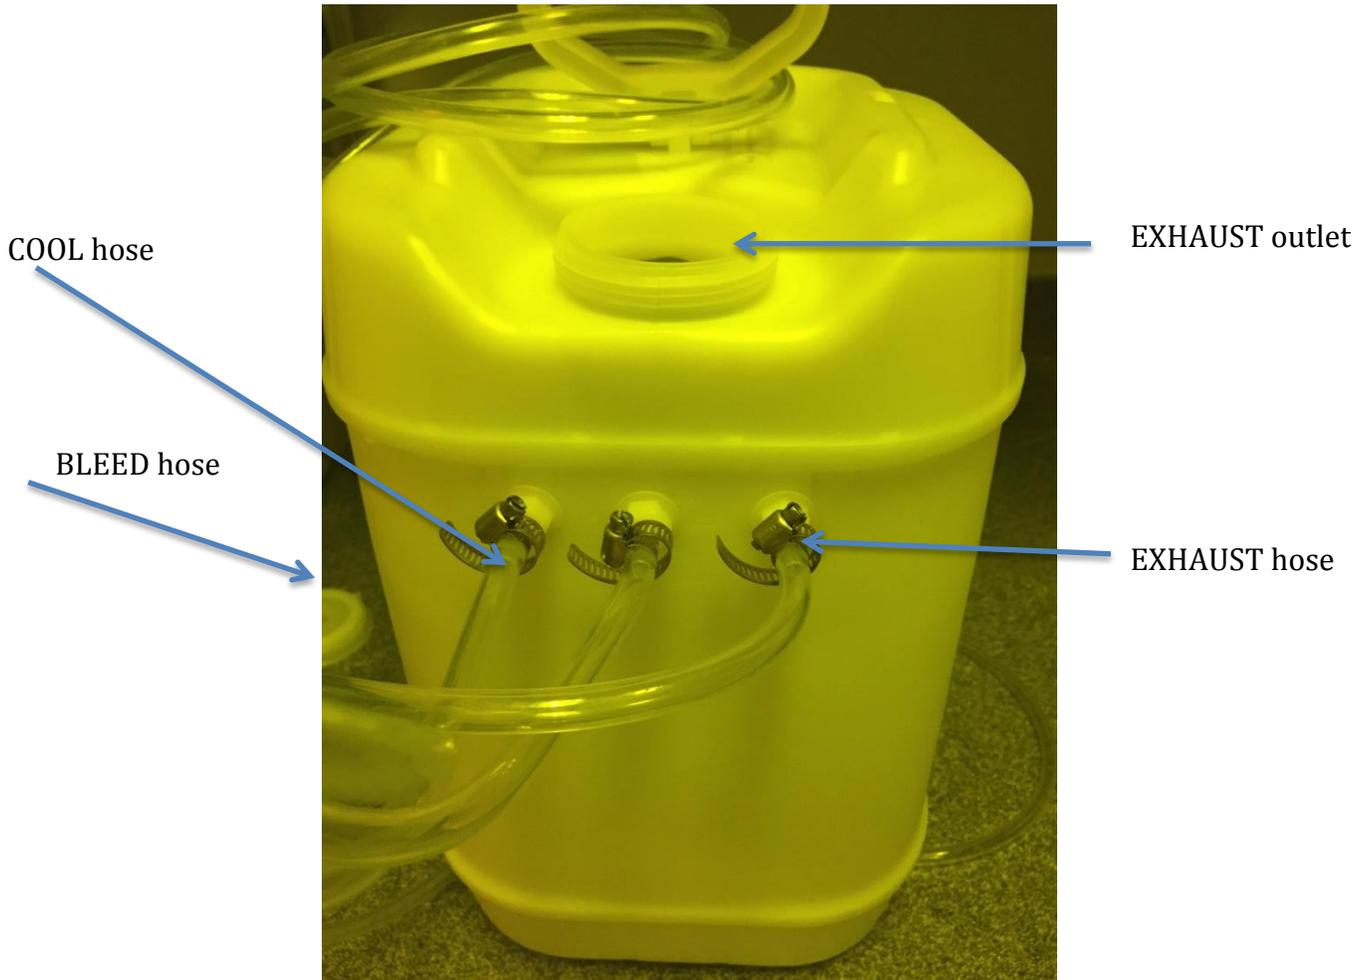

Figure 8: Carboy should be placed in the hood with the cap open.
- 4.2.1 Make sure the white COOL and clear PURGE-VENT BLEED hoses are leading to the carboy, and the carboy is placed in the fume hood. The cap to the carboy should be left OPEN. See Figure 8.